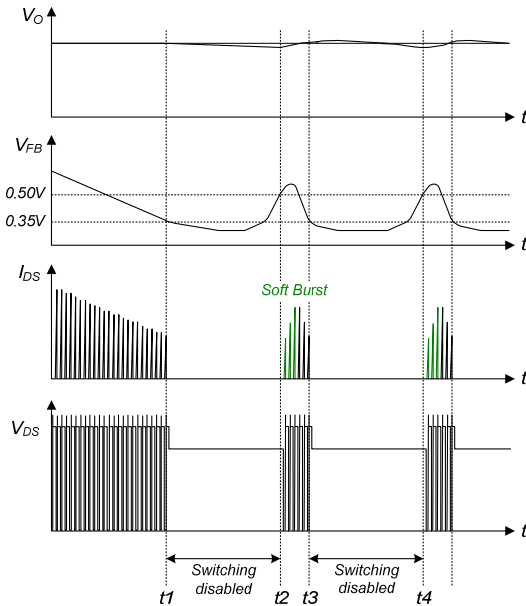

Figure 23. Burst-Mode Operation
5. Soft Burst-Mode Operation: To minimize power dissipation in Standby Mode, the FSD156MRBN enters Burst-Mode operation. As the load decreases, the feedback voltage decreases. As shown in Figure 23, the device automatically enters Burst Mode when the feedback voltage drops below V_{BURL} (350mV). At this point, switching stops and the output voltages start to drop at a rate dependent on standby current load. This causes the feedback voltage to rise. Once it passes V_{BURH} (500mV), switching resumes. The feedback voltage then falls and the process repeats. Burst Mode alternately enables and disables SenseFET switching, reducing switching loss in Standby Mode.